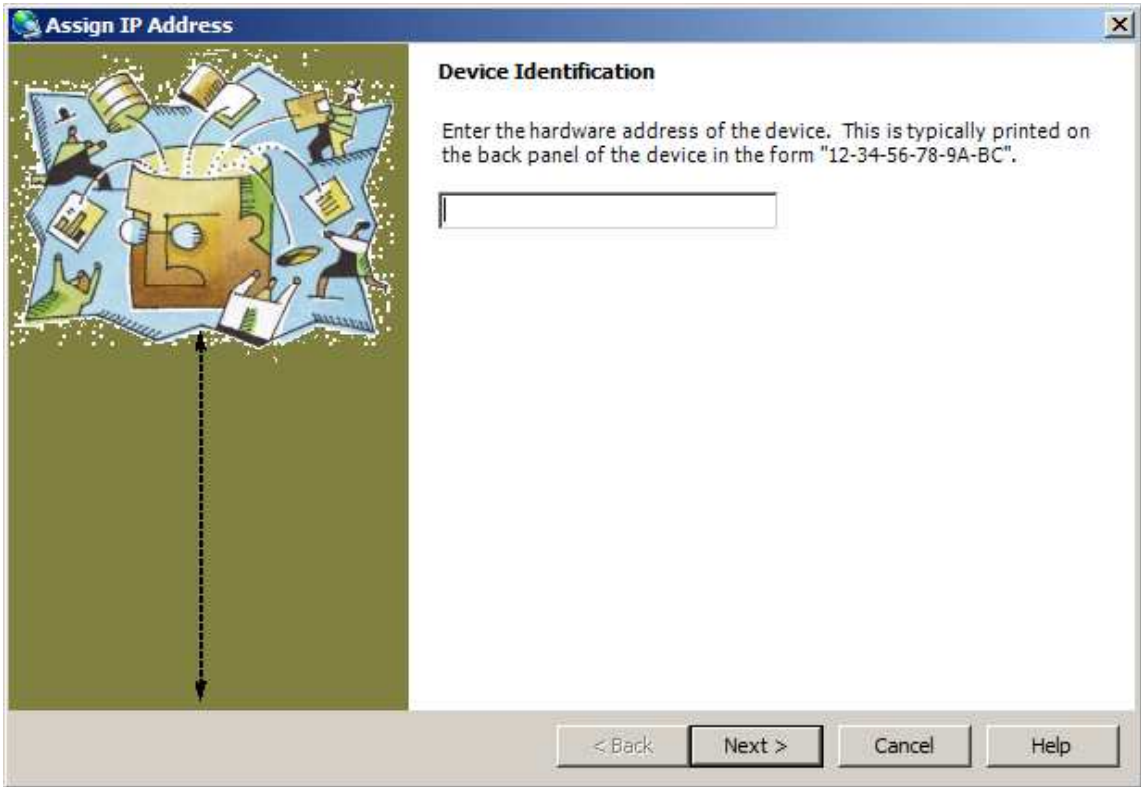

Figure 3 - Entering the MAC Address of your CNI
- 1) Click the Assign IP button. This reveals the Device Identification panel shown in Figure 3.